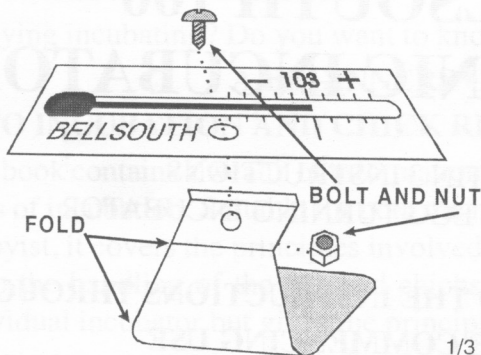
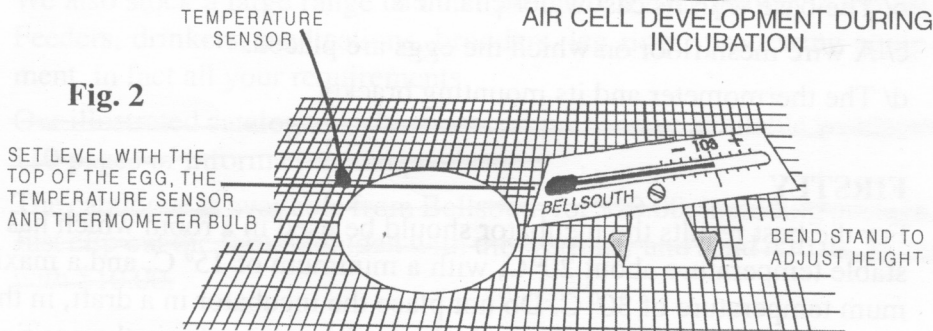

Fig. 1
Fig. 2
Remove the thermometer from its box. The stainless steel stand has two lines drawn on it. Bend the stand along the lines and then bolt the thermometer onto the stand. (See Fig 1) The bottom of the thermometer bulb should be level with, or just above, the top of the eggs. Adjust the height by bending the stand. (See Fig 2) Place the thermometer where it can be seen through the view port. The idea is to mimic the broody bird. The broody bird places the heat of her body on top of the eggs, so we place the thermometer to measure the temperature on top of the eggs.
Adjust the end of the temperature sensor lead until it is just clear of the top of the eggs. (See Fig 2). It is usual for the sensor to be 1-3mm above the top surface of the egg. Place the top of the incubator over the base, and check that the thermometer is easily read through the view port. Do not put eggs in the incubator until temperature has been stabilized.
4) The key to successful operation is in the temperature. Remember the broody hen uses body temperature on the top of the eggs. So for good results, all eggs in the incubator should be close to the same size, thermometer set with the bottom of the black sensor bulb level with the top of the eggs, and 103 degrees F is the set temperature. Thermometer and temperature sensor should be at the same height as the top of the eggs but should not touch the eggs. See Fig 2. Remember a few minutes setting up correctly will save a lot of distress.